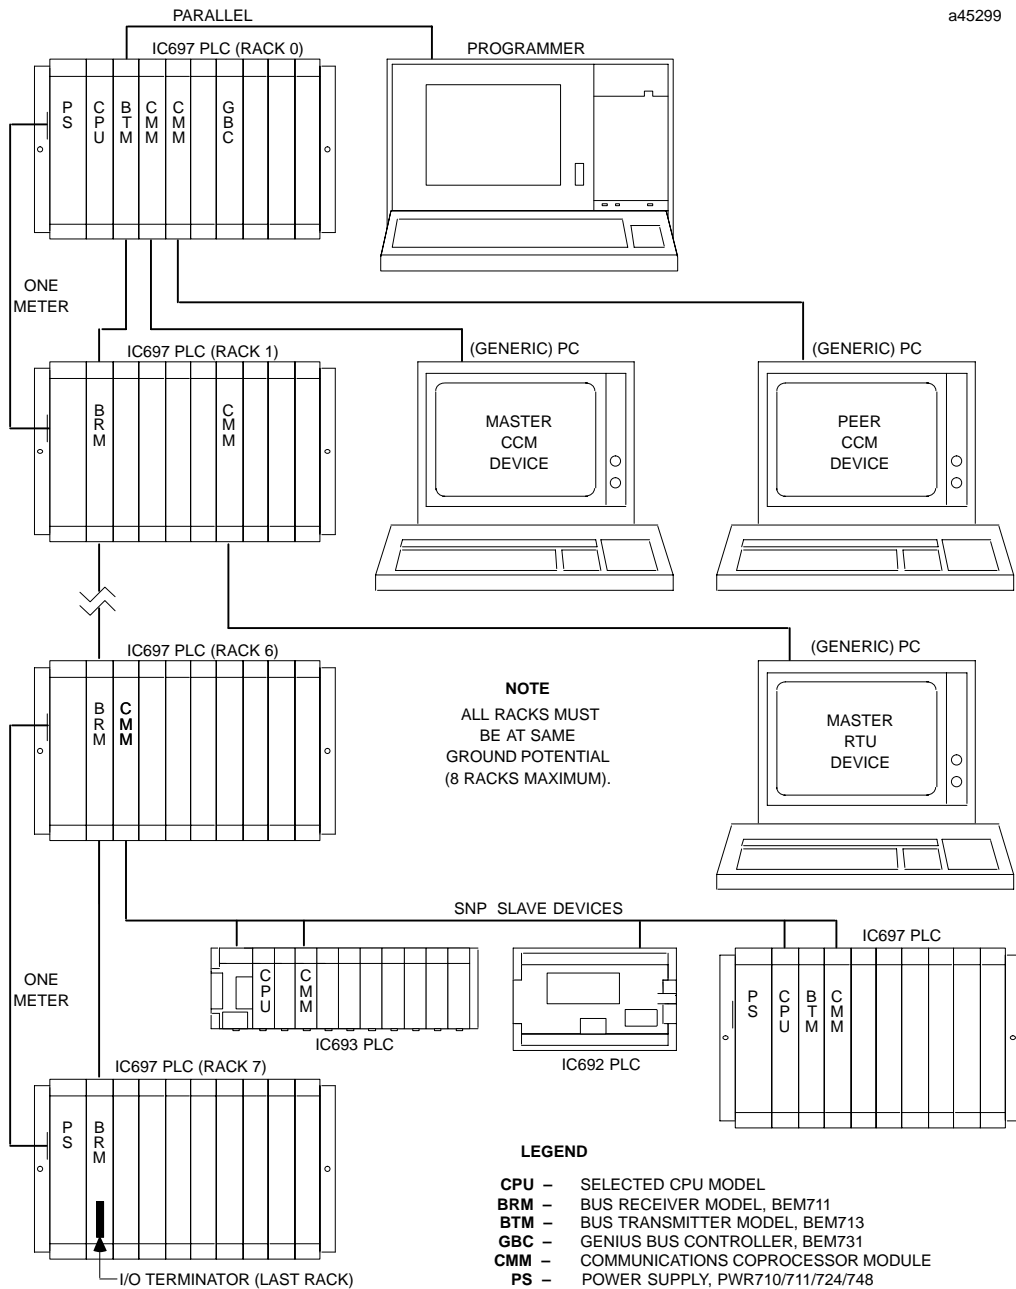

Figure 2. Typical PLC System Configuration
The CMM provides both the RS-232 and RS-485 Interfaces and communicates with the PLC CPU over the backplane. Many CMMs can be placed in a single IC697 PLC system as illustrated by Figure 2.
Figure 2 illustrates typical CMM interface installations in a IC69\* PLC system.
- Install module in the rack (see Figure 2).